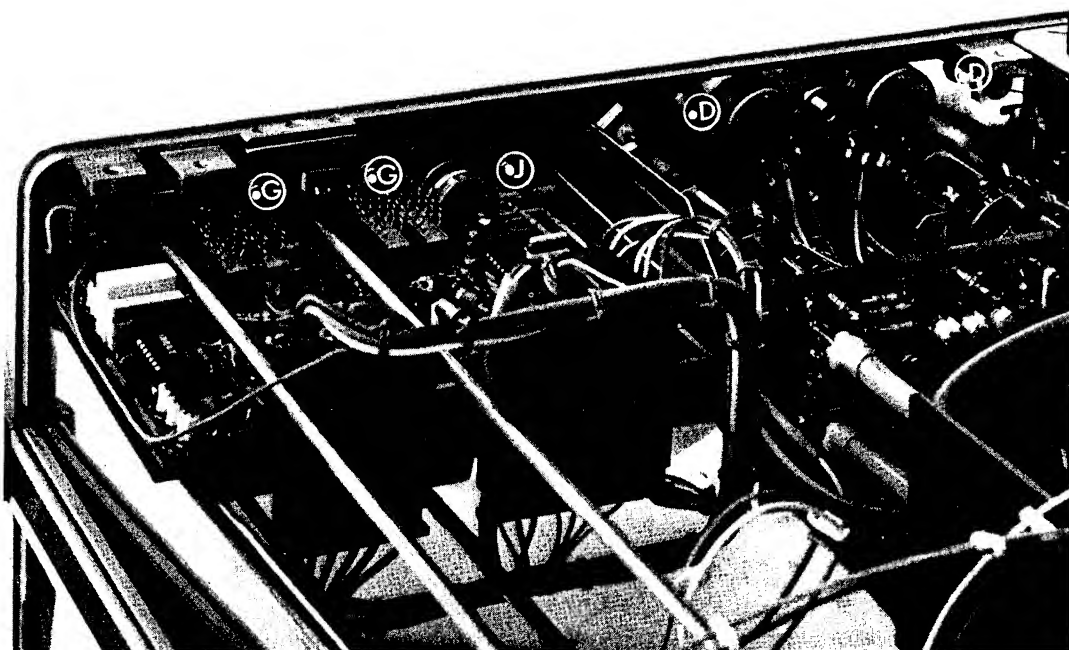

Fig. 3.22. Dismantling
- Remove one screw J (Fig. 3.22.).
- Remove the two recessed-head screws G (Fig. 3.22.) and belonging clamping devices with which the storage board is fitted to the front panel.
- Remove two screws D (Fig. 3.22.).